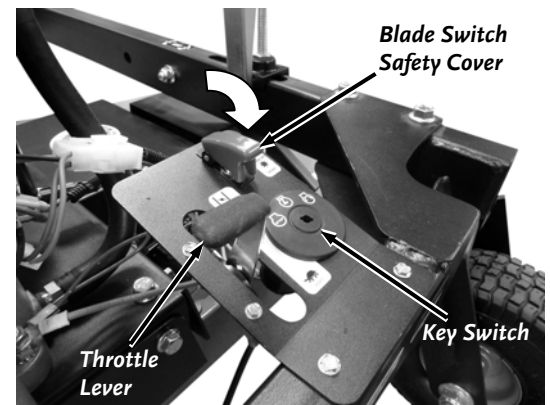

Figure 26
4. Make sure the Blade Switch Safety Cover is pushed down to the disengaged position (**Figure 26**).
1. Ensure the Blade Switch Safety Cover is down (**Figure 26**).
2. When starting a cold Engine, push the Throttle Control Lever up to the Choke  position (**Figure 26**). When starting an already warm Engine, push the Throttle Control Lever to the Run  position.
2. Move the Throttle Control Lever all the way down to the Idle  position and turn the Key to Stop  (**Figure 26**).
1. Push down on the Blade Control Safety Cover (**Figure 26**).